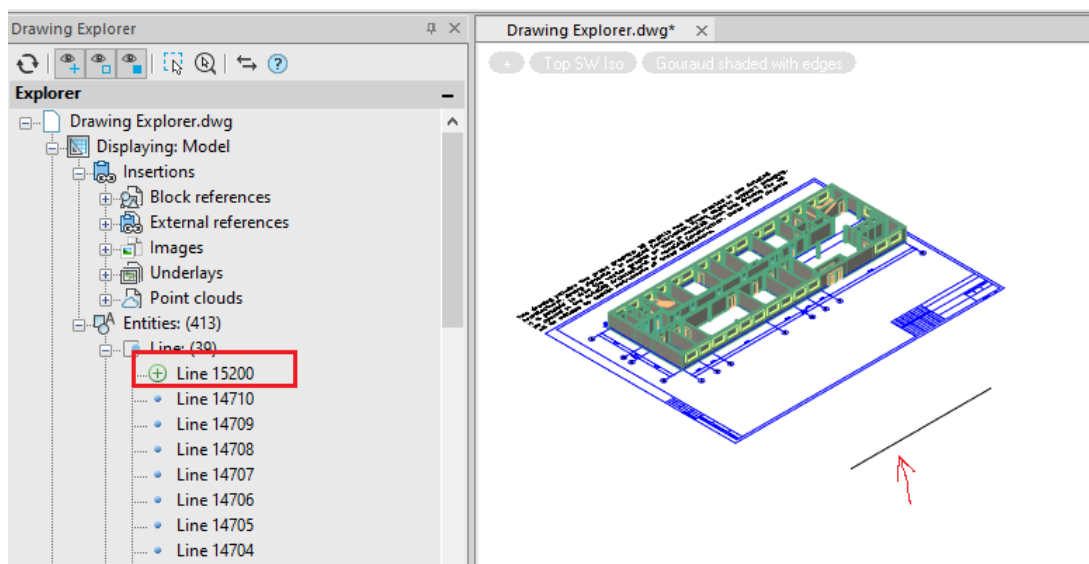

Fig. 57. A new line
7.4. Open the **Displaying – Entities – Line** section, then draw a line anywhere in the drawing file. The line will appear in the **Drawing Explorer** (fig. 57):